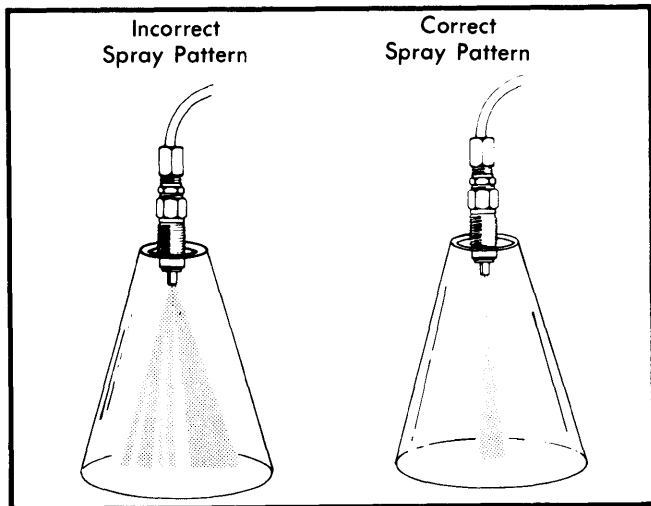

Fig. 9 Nozzle Spray Pattern Test
3) Build nozzle pressure slow enough to determine exact minimum opening pressure of nozzle. Minimum opening pressure is 1750-1900 psi (Roosa-Master) or 870 psi (Diesel Equipment/C.A.V. Lucas). When nozzle releases pressure, note spray pattern and compare with examples shown. If incorrect, or if a liquid stream, replace nozzle. See Fig. 9.